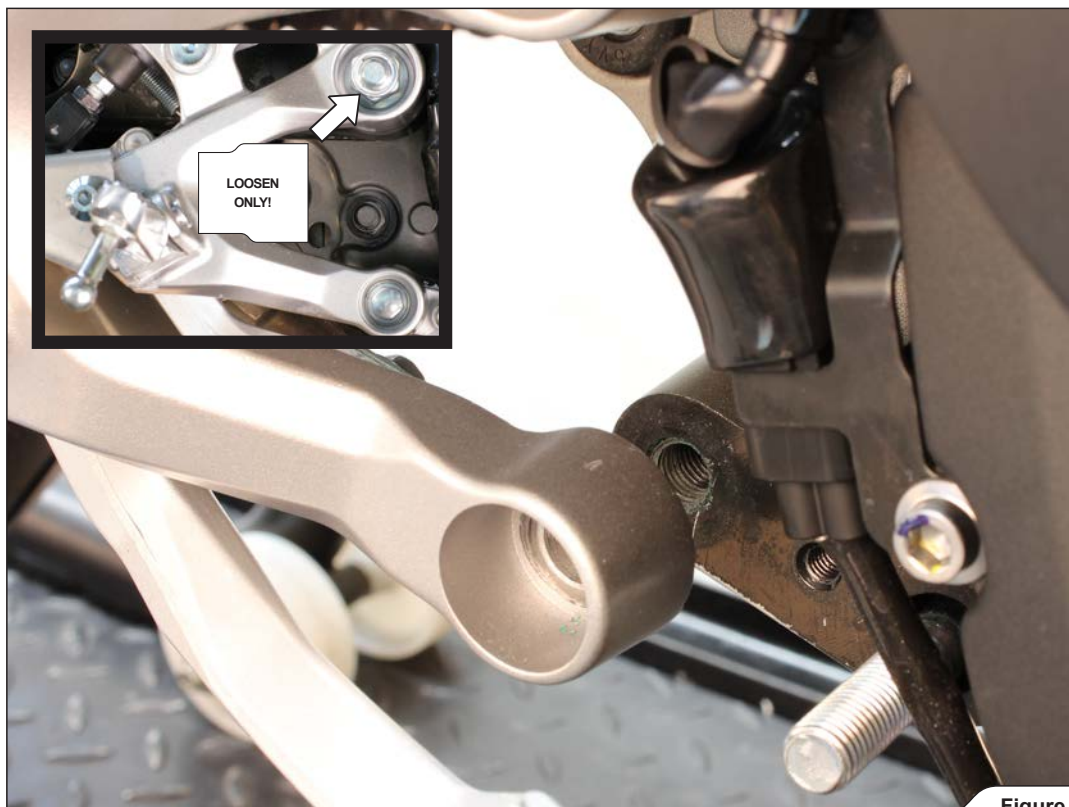

Figure 5
3. Loosen the swing arm's pivot nut and unscrew the right footrest bracket (Figure 5).